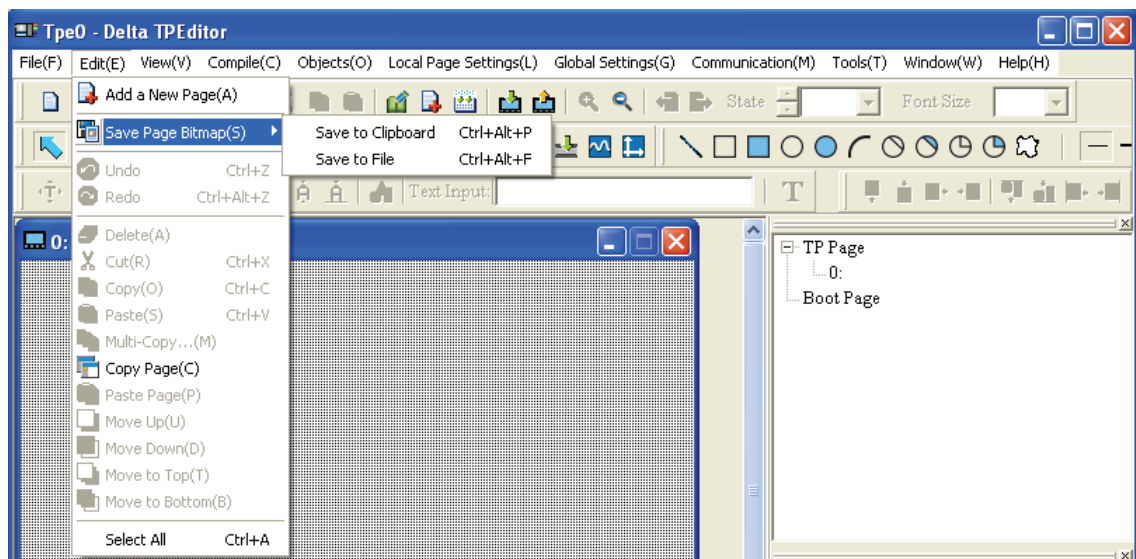

Figure 1-49
- Save Page Bitmap: Save the current edited screen to Clipboard or as a file. Click **Edit(E) > Save Page Bitmap** to save the current edited screen that the users needed (Figure 1-49).